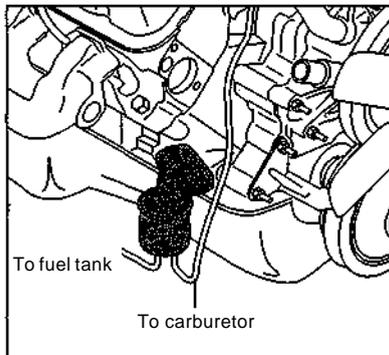

Figure 21-2:
2. Disconnect the fuel pump end of the hose that leads from the carburetor to the fuel pump (see Figure 21-2) and place the end of the hose in a jar or plastic bag.